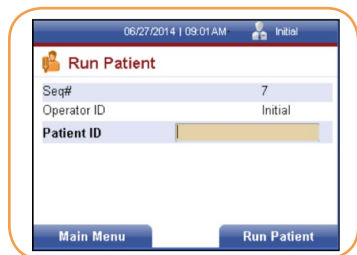

FIGURE 45
3. To run another test, use the [↓] key to Next Patient menu item. Press the right soft key to select it. The Run Patient screen will be displayed, ready for the next Patient ID number to be entered (Figure 45).